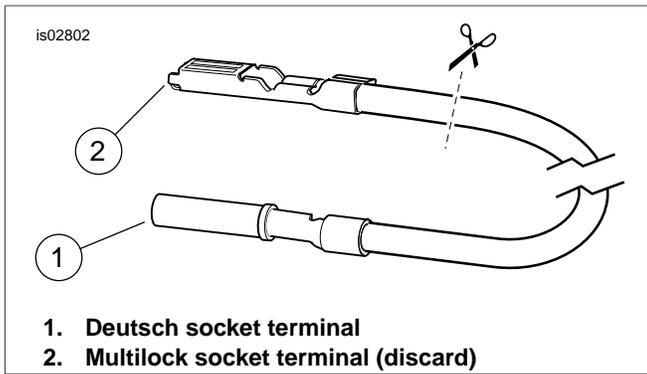
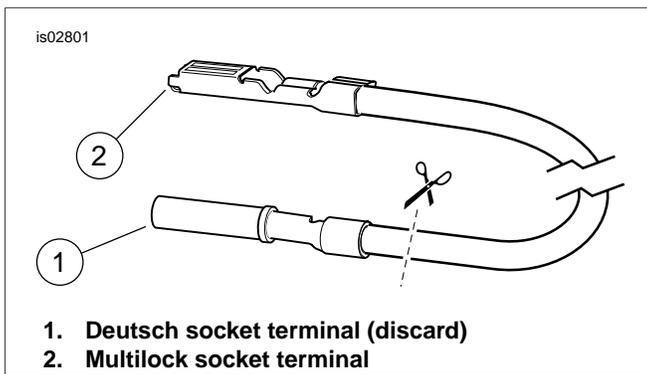

Figure 1. Cut Multilock Terminal From Adapter Lead
Figure 3. Cut Deutsch Terminal From Adapter Lead
- a. Cut off and discard the terminal on the Pink (PK) **mini-tach wire harness** signal lead.
- b. Obtain the signal adapter wire lead (12) and a butt-splice connector (6) from the kit. See Figure 1. Cut the Multilock socket terminal from the signal adapter wire lead, close to that terminal. Splice the signal adapter wire lead to the mini-tach wire harness signal lead according to the SEALED BUTT SPLICE CONNECTOR instructions in the Service Manual.
- c. Free the Pink (PK) tachometer signal source wire inside the fuel tank console, and connect the signal adapter wire lead to the tachometer signal source wire.
- b. Obtain the signal adapter wire lead (12) and a butt-splice connector (6) from the kit. See Figure 3. Cut the Deutsch socket terminal from the signal adapter wire lead, close to that terminal. Splice the signal adapter wire lead to the mini-tach wire harness signal lead according to the SEALED BUTT SPLICE CONNECTOR instructions in the Service Manual.
- c. Free the Pink (PK) tachometer signal source wire from the conduit on the vehicle, and connect the signal adapter wire lead to the tachometer signal source wire.
See Figure 1 and Figure 3. Cut the un-needed socket terminal from the signal adapter wire lead, close to that terminal. Splice the signal adapter wire lead to the mini-tach wire harness signal lead according to the SEALED BUTT SPLICE CONNECTOR instructions in the Service Manual.